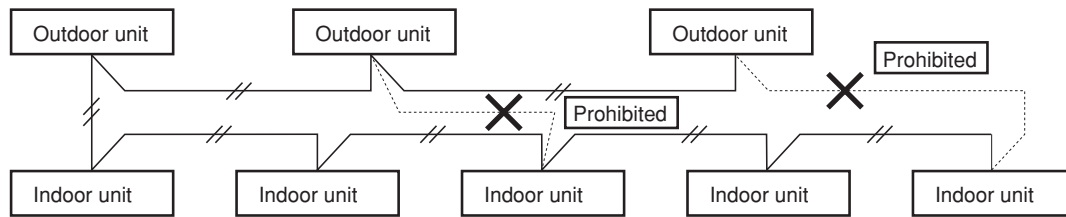

Fig. 3-1
- (2) Do not install the inter-unit control wiring in a way that forms a loop. (Fig. 3-1)